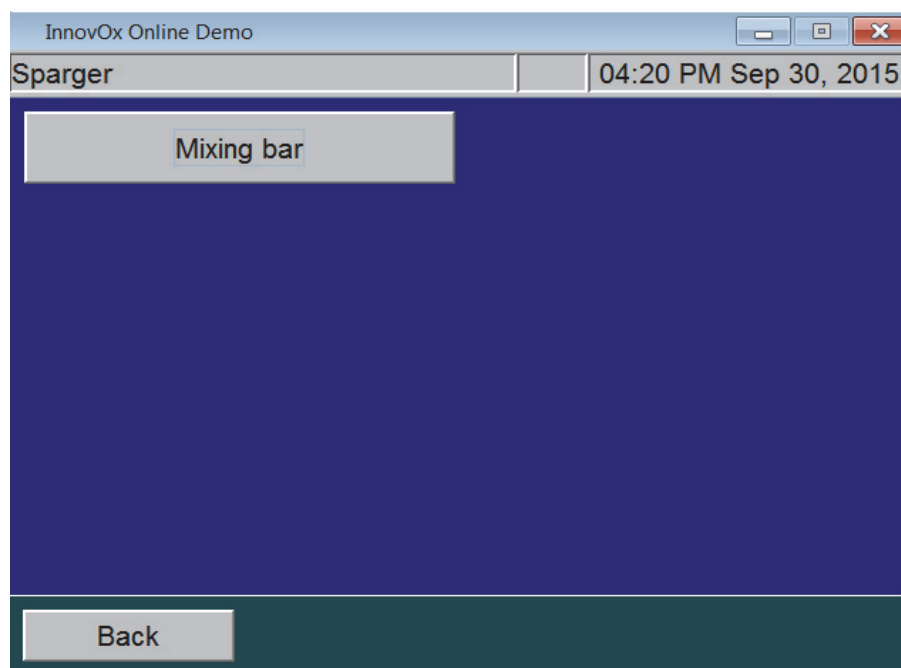

Figure 89: Sparger Diagnostics Screen
1. On the *Diagnostics* screen, press the **Sparger** button (Figure 89).